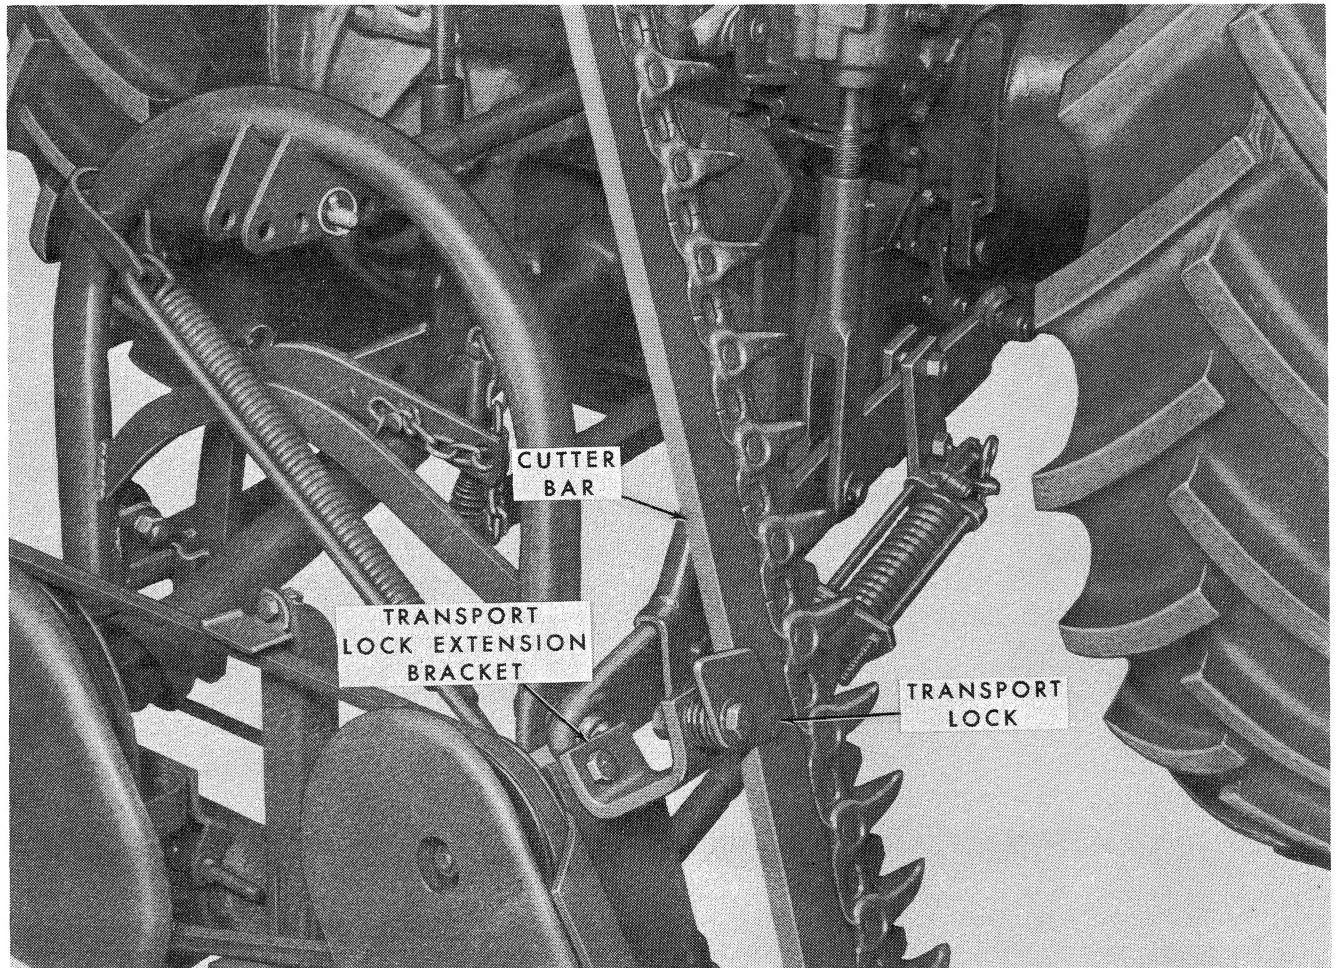

Figure 40
29. Install the breakback attaching bracket as far forward as possible on the tractor right lower link, as shown in Figure 40, with the two carriage bolts and nuts holding the bracket and clamp plate together.
30. Attach the breakback assembly to the link pin on the attaching bracket, as shown in Figure 40. Secure with the self-locking pin (2).
31. **Mounting Kit 14-289:** Remove the transport lock from the mower and install the transport lock extension bracket in its place, as shown in Figure 40. Then, attach the transport lock to the extension bracket.